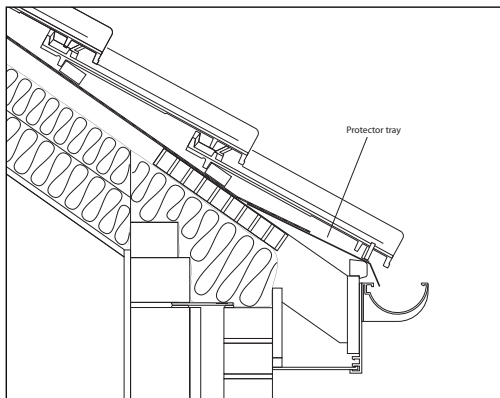

Fig 37 - Section through typical eaves showing protector tray
- 1 An eaves protector tray (1.5 x 0.22m) should be fitted over the fascia, tilting fillet or eaves vent strip and nailed to each rafter. The roof underlay should lap the protector tray by a minimum 150mm (Fig 37).